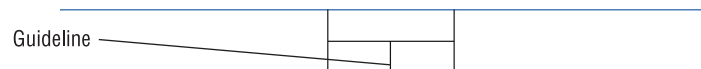

FIGURE 7.18: The guideline is completed.
2. Move to the bottom wall line. When the Perpendicular symbol appears, click. A guideline is drawn from the midpoint of the glazing line that is perpendicular to the lower wall line (see Figure 7.18). The lower endpoint of this line is the location of the window block insertion point. Press \downarrow to end the Line command. Now you are ready to define the window block.